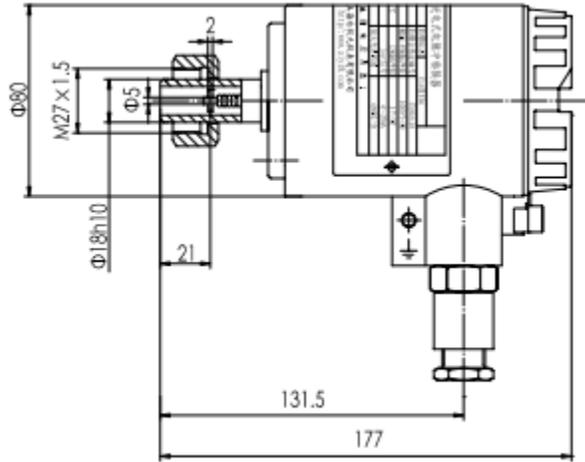

Fig.2 Converter Dimensions & Installation Diagram
(5) **Dimensions:** see Fig.2
### 1) Out-appearance & Dimensions (see Fig.2)
#### (1) Converter Installation (see Fig. 2)